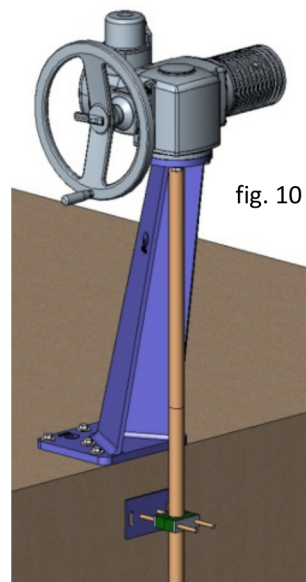

fig. 10
- Possibility of leaning floor stand (fig. 10).